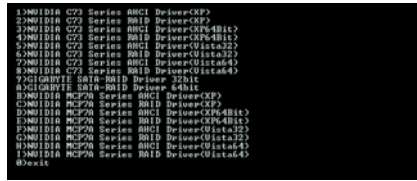
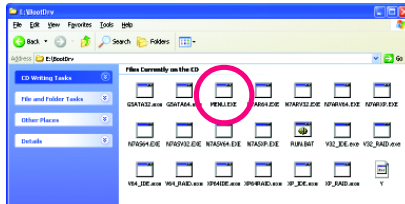

Figure 2
Figure 3
Step 2: When the controller menu (Figure 2) appears, remove the startup disk and insert the blank formatted disk. Select the controller driver by pressing the corresponding letter from the menu. For example, in the menu in Figure 2,
Use an alternative system and insert the motherboard driver disk. From your optical drive folder, double click the **MENU.exe** file in the **BootDrv** folder (Figure 3). A command prompt window will open similar to that in Figure 2.